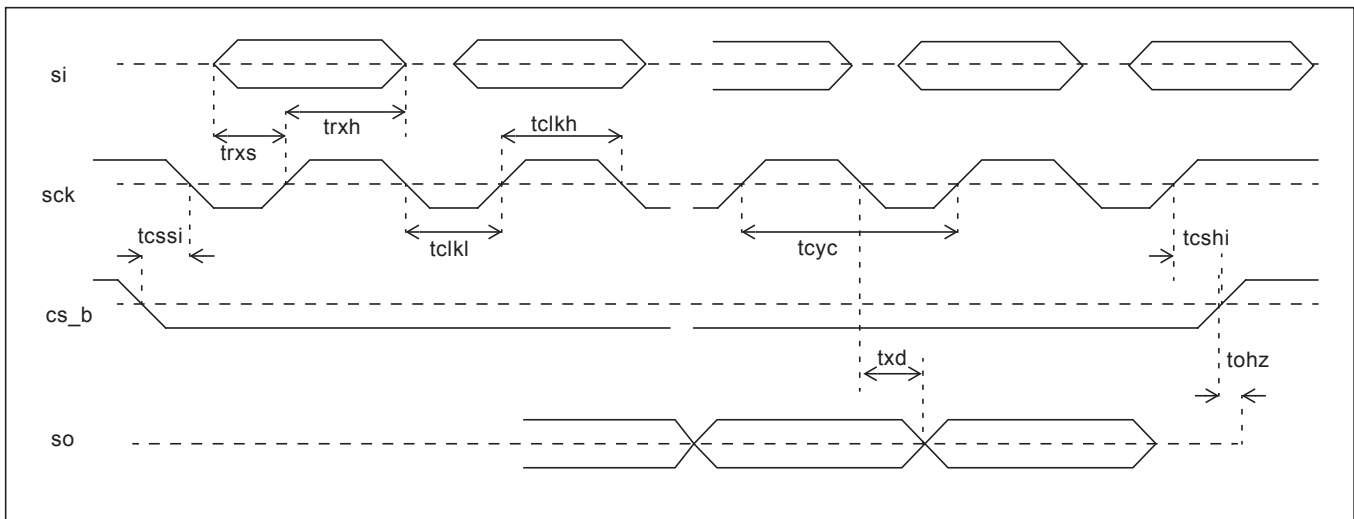

**Figure 29 - Output Timing Referenced To hpclkout0/clkout0**
**AC Electrical Characteristics\* - Outputs (see Figure 29).**